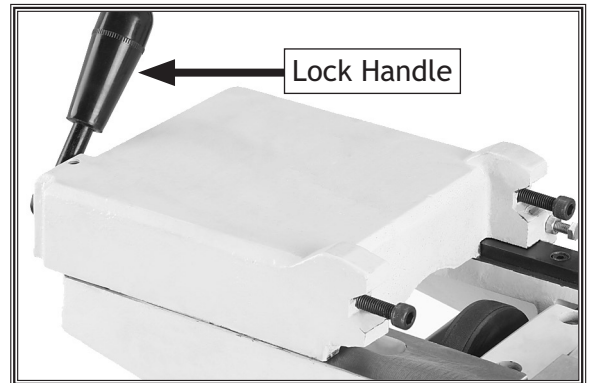

Figure 19. Fence carriage mounted on the back of the jointer.
24. Mount the lock handle on the carriage, as shown in **Figure 19**.